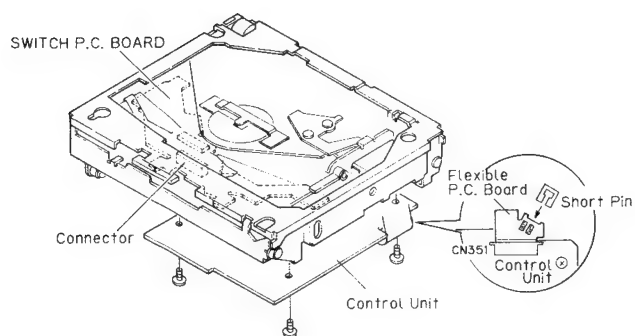

Fig. 7
4. Fix short pin when removing the CN351 connector.(For protection of the PU unit.) (Fig. 7)
5. Remove the three screws. (Fig. 7)
6. Since the control unit is connected to the switch substrate by means of connector, disconnect the connector and then remove the control unit right downward. (Fig. 7)